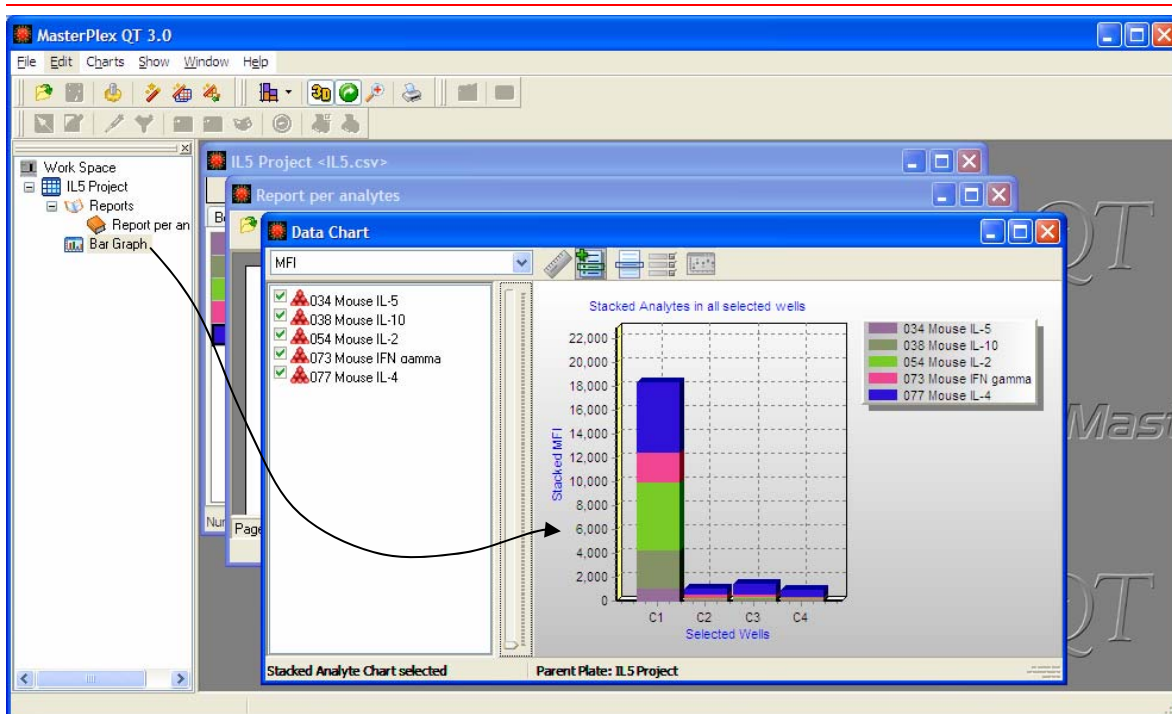

Figure 3.15 Plate Navigator window
- To view a particular window, click the item in the Plate Navigator window (Figure 3.15).